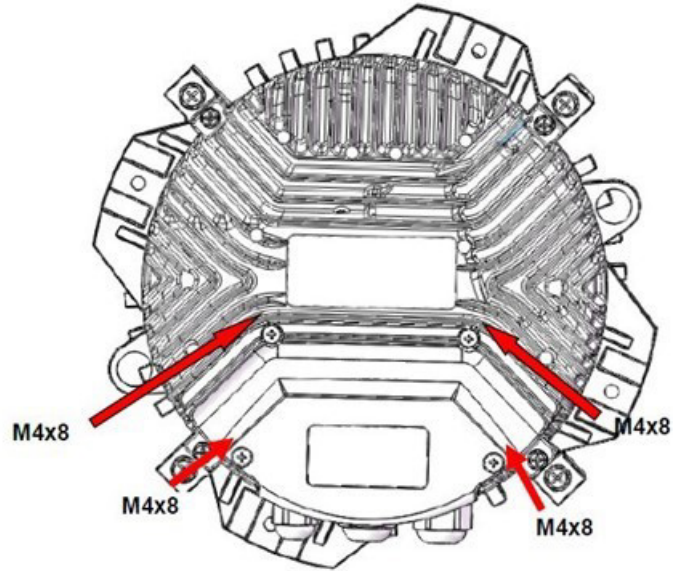

Figure 28. Terminal Cover
3. Remove the terminal cover by removing the four M4x8 mm fasteners as shown in **Figure 28**.
11. Remove the terminal cover shown in **Figure 28**. Remove caps from the cable glands.